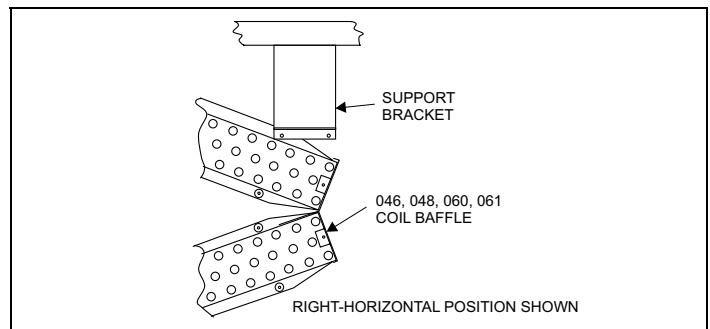

FIGURE 8: Horizontal Application Baffle/Support
*Models G2FD046S17 & G2FD048, 060, 061 have a coil baffle and support bracket factory installed for right hand horizontal application (Refer to Figure 8. For left hand applications the coil support bracket must be moved to the right side of the coil, and the coil baffle must be rotated to avoid water blow-off. G2FD046 only has a water guard attached to the rear of the coil. For left hand position, the water guard should be repositioned to the other side.*